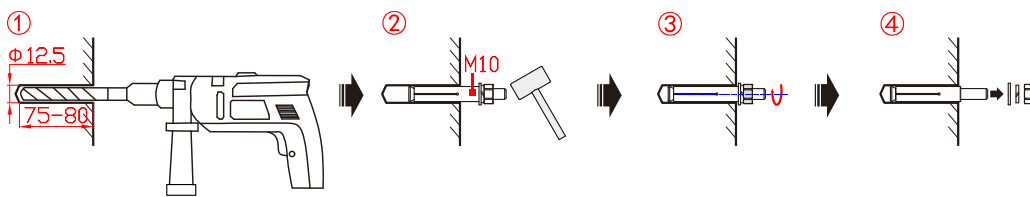

Figure3-20 Install the expansion bolt (unit: mm)
2. Install the expansion bolts, as shown in Figure3-20.